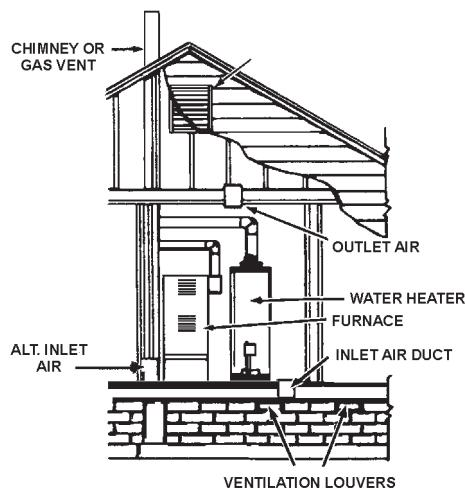

FIGURE 6.
B. ALL AIR FROM OUTDOORS: (See Figures 6, 7 and 8)
- When directly communicating with the outdoors, each opening shall have a minimum free area of 1 square inch per 4,000 Btu per hour ($5.5 \text{ cm}^2/\text{kW}$) of total input rating of all equipment in the enclosure, see Figure 6.